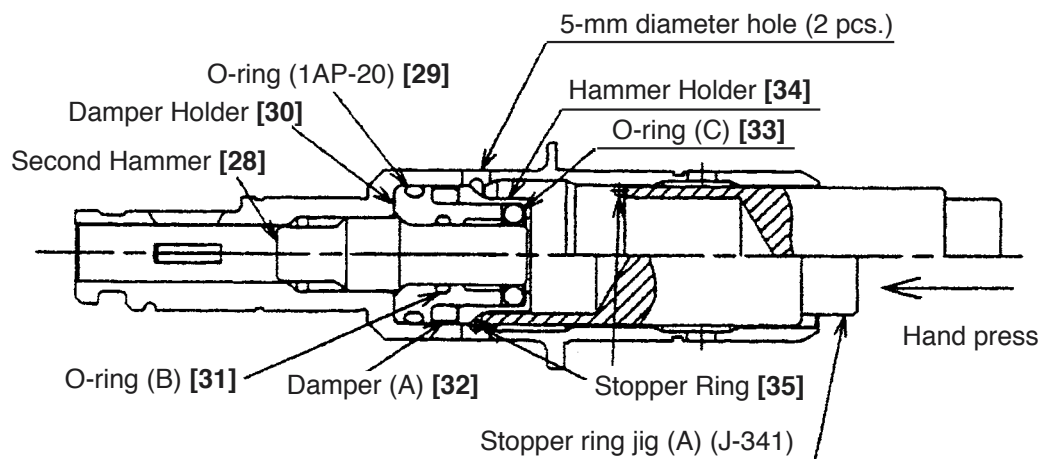

Fig. 21
(4) Mounting the Cylinder [18]
Mount the Second Hammer [28], O-ring (1AP-20) [29], Damper Holder [30], O-ring (B) [31], Damper (A) [32], new O-ring (C) [33] and Hammer Holder [34] in the Cylinder [18]. Push the new Stopper Ring [35] into the Cylinder [18] then push in the hole side of stopper ring jig (A) (J-341) on it as shown in Fig. 21. Push the upper end surface of stopper ring jig (A) (J-341) with a hand press to fit the Stopper Ring [35] in the groove of the inside diameter portion of the Cylinder [18]. Check that the Stopper Ring [35] is securely fitted in the groove of the inside diameter portion of the Cylinder [18] viewing from the 5-mm diameter hole (2 pcs.) on the Cylinder [18].